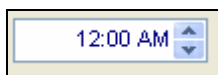

Figure 16.1.24B
- Click on the **Time** box and use the **UP** and **DOWN** arrows to set the time that you want this schedule to stop (Figure 16.1.24B).